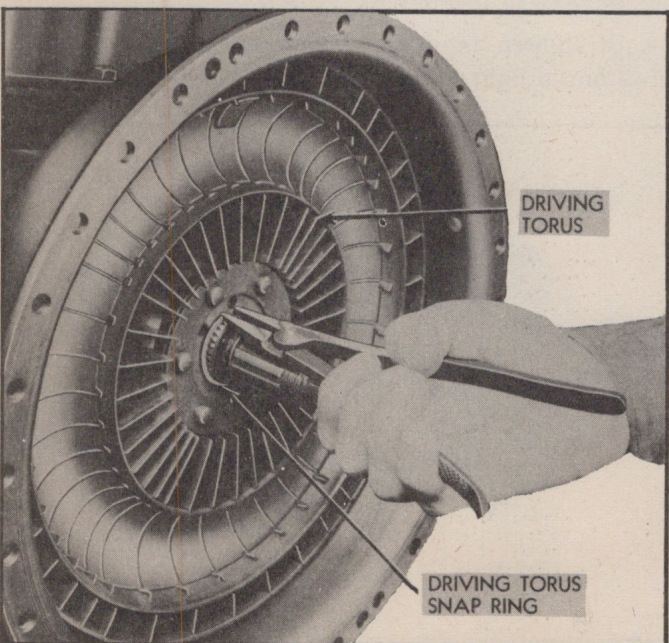

Fig. 110—Removing Torus Snap Ring
7. Remove driving torus snap ring (Fig. 110).